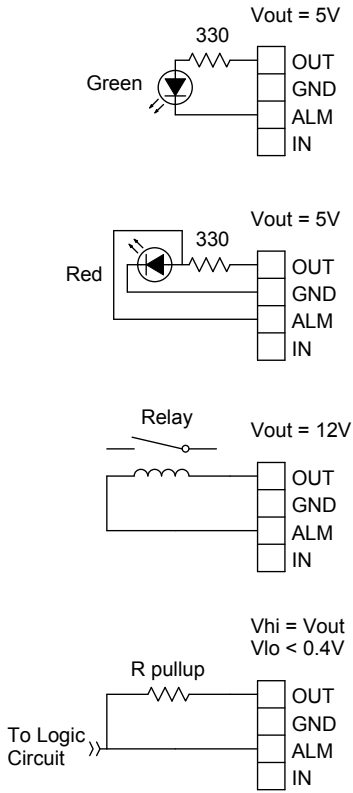

Figure 9a.-d.: Alarm Configurations
The alarm output is a normally open (NO), open collector referenced to isolated ground. When no alarm condition is present, the relay is closed and can conduct up to 100 ma DC, of load current. When the alarm is triggered, the transistor opens, and can support up to 100 VDC across its terminals. See figures 9a, 9b, 9c or 9d for possible alarm configurations.